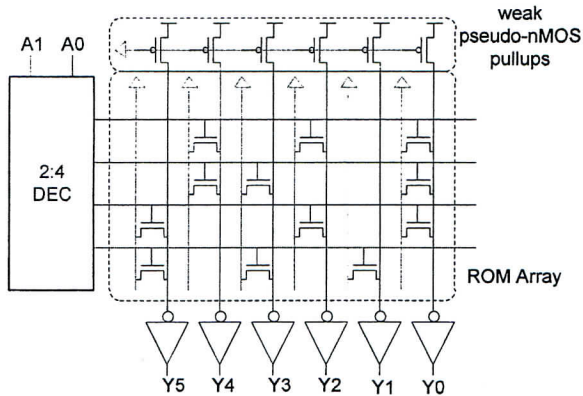

Fig. 15
- (e) What's the 6x4 code in the ROM as shown in Fig. 15. (2%)